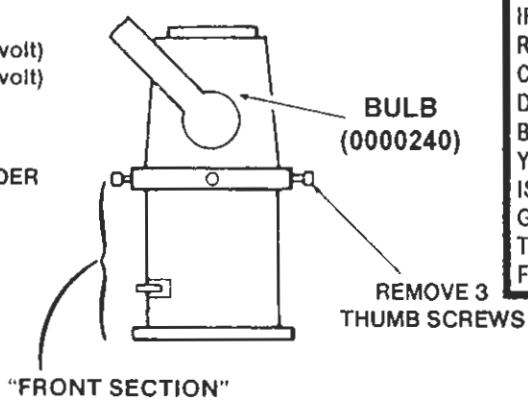

FIGURE 5
- b. While securely holding the front section, remove the 3 thumb screws from the exterior of the light (see figure 5).